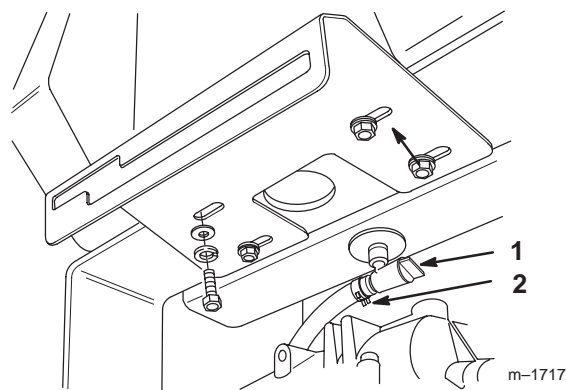

Figure 33
2. Close fuel shut-off valve at fuel tank (Fig. 33).
3. Squeeze the ends of the hose clamp together and slide it up the fuel line away from valve (Fig. 33).
4. Pull the fuel line off the valve (Fig. 33). Open fuel shut-off valve and allow gasoline to drain into a gas can or drain pan.
6. Open fuel shut-off valve at fuel tank (Fig. 33).